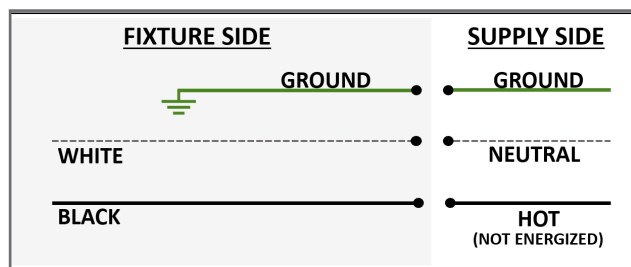

FIGURE 18
5. Route the input wires through the chosen knockout and make electrical connections according to Figure 18.
7. Insert the ends of the joiner lens's legs (circled in red Figure 22) into the cutouts of the reflector plates (circled in blue in Figure 23) and rotate the joiner piece to fit in between the outer lens and the reflector plates (Figure 18).